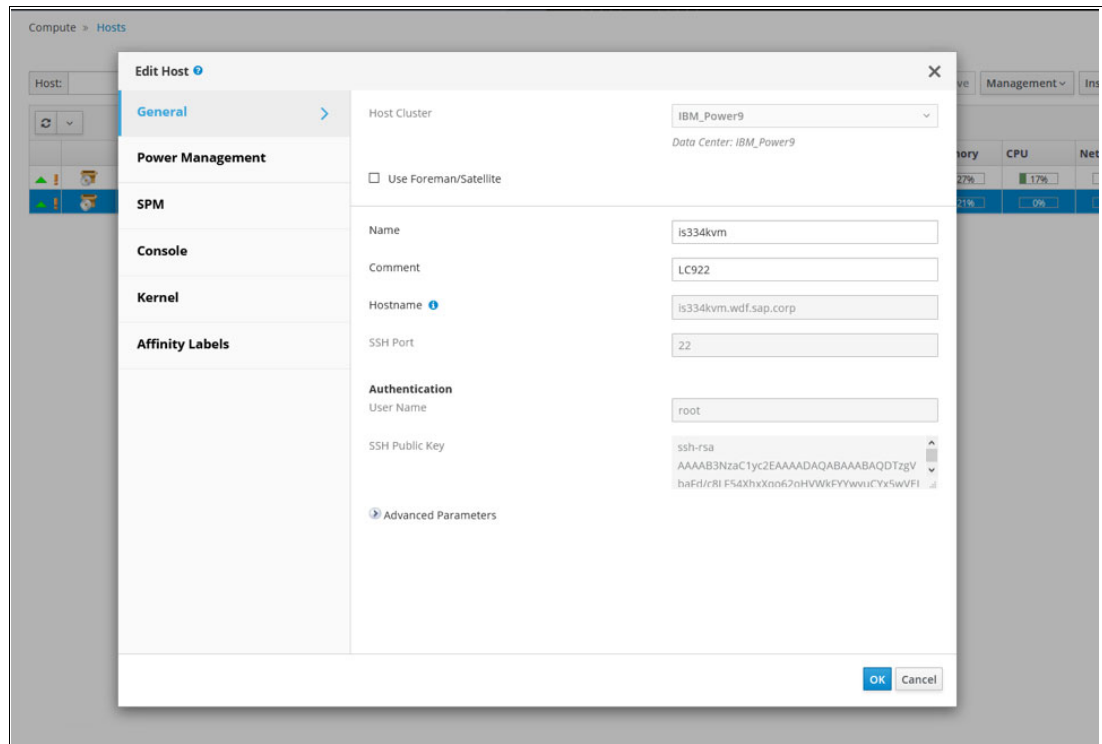

Figure 4-36 Compute Host window: Edit Host
8. Click **OK**, as shown in Figure 4-36.